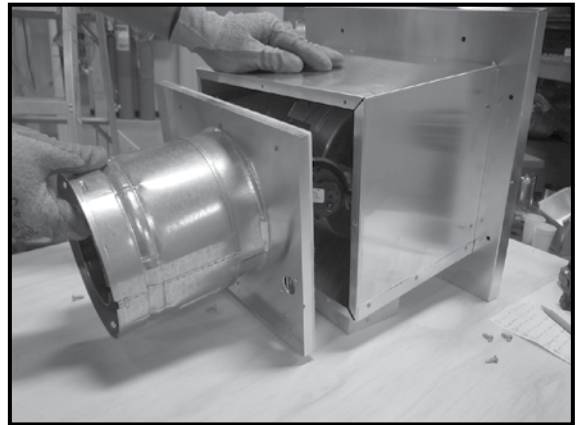

Figure 3.6
2. Slide the exhaust housing assembly out of the back of the cap. See Figure 3.6 and 3.7.